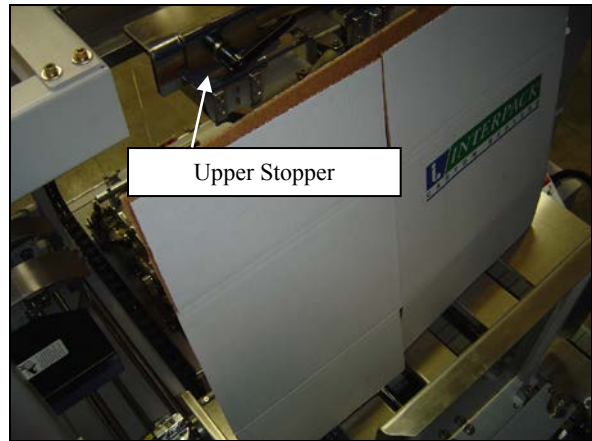

Figure 5.6
5. Place a case—without being folded—vertically in the proper orientation (RH facing Vacuum Cups) in the powered hopper and adjust the hopper table to the upper stopper mechanism or fingers approximately  $\frac{1}{4}$ " of the case separating plate on the case (Figure 5.6, 5.7, 5.8, 5.12).